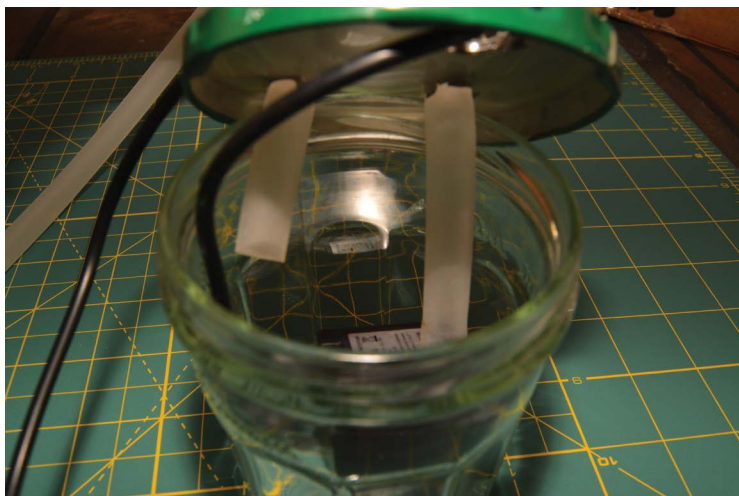

FIGURE 6-7: Connect one tube to the submersible pump's outflow, and let the return tube dangle.
1. Connect one of the plastic tubes to the outflow nozzle on the pump. The return tube doesn't need to attach to anything (see Figure 6-7).